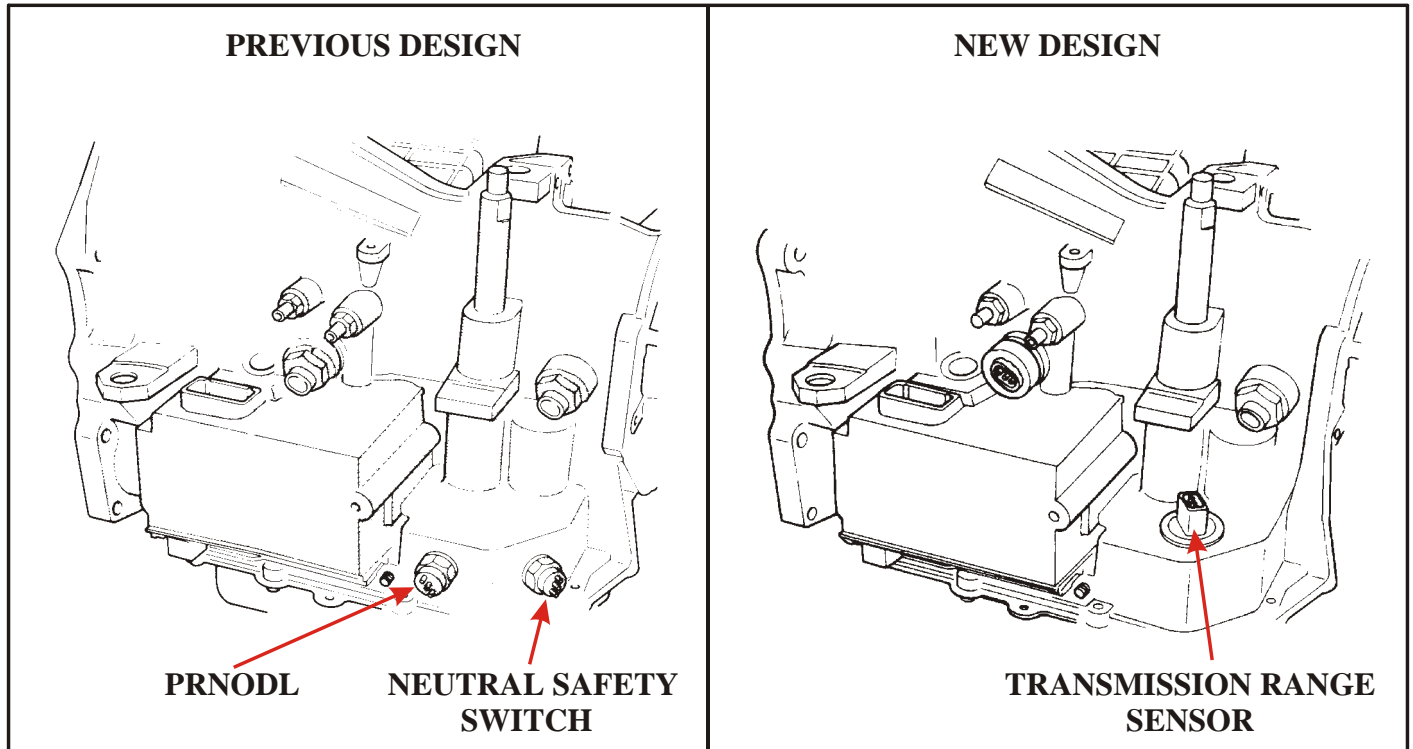

Figure 1
CHANGE: Beginning at the start of production 1996, some models equipped with the 41TE (A604) transaxle replaced the PRNODL and Neutral Safety Switch with a Transmission Range Sensor as seen in Figure 1.
- (1) PRNODL SWITCH - The previously used Park, Reverse, Neutral, Overdrive, Drive, Low Switch (PRNODL) has been eliminated and replaced with the new Transmission Range Sensor (See Figure 1).
- (2) NEUTRAL SWITCH - The previously used Neutral Switch has been eliminated and replaced with the new Transmission Range Sensor (See Figure 1).
- (3) TRANSAXLE CASE - The casting of the case change with the elimination of the two threaded holes for the PRNODL and Neutral Safety Switch. An access hole has been added to accommodate the new TRS sensor connector as the switch which is mounted on the valve body (See Figure 1).